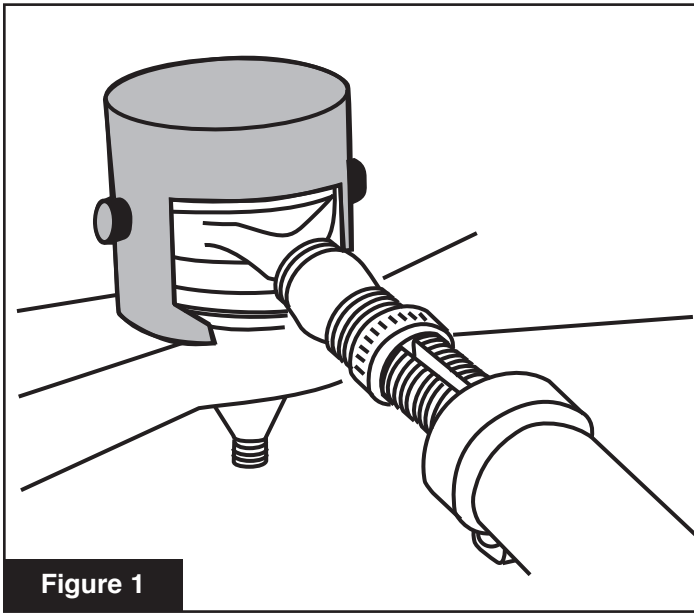

Figure 1
1. Install the tie rod end stabilizer socket (**Figure 1**) over the tie rod end housing and secure the housing by tightening the setscrews.